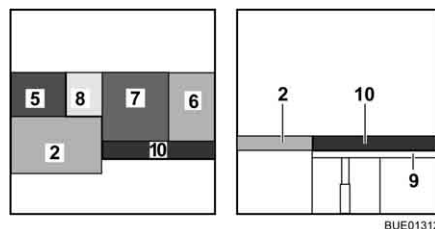

Fig. 138 After conversion
- Hook the bed widening (Fig. 138,9) into the recesses on the bench seats.
- Place the additional cushion (Fig. 138,10) on the bed widening.